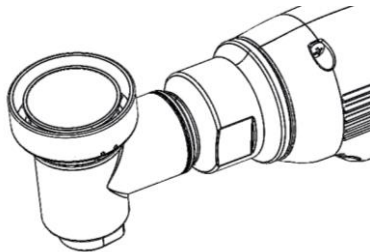

Fig.7
1. Place the disc pad (4)
2. Hold the shaft locking button (6) and screw the disc pad on a shaft (Fig. 7)
3. To remove, hold the shaft locking button (6) and unscrew the disc pad